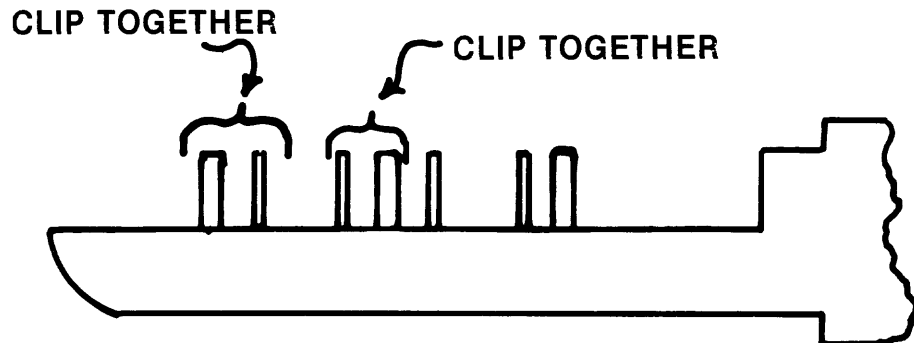

Figure 12.--Specific-conductance sensor with shield removed.
3. Attach one clip lead from the center electrode to an adjacent electrode. Attach the second clip lead from the outside electrode to the adjacent electrode. See figure 12, specific-conductance sensor.